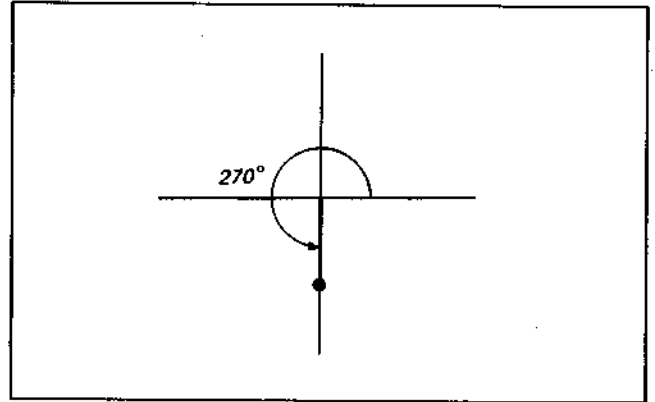

Fig. 4-4-4. Vectorscope adjustment
- (1) Supply the VTR with the colour bar signal and set up the E-E mode.
- (2) Connect the vectorscope to the base of Q21 and adjust the PHASE knob of the vectorscope so that the burst signal comes to the 270° point. (See Fig. 4-4-4.)